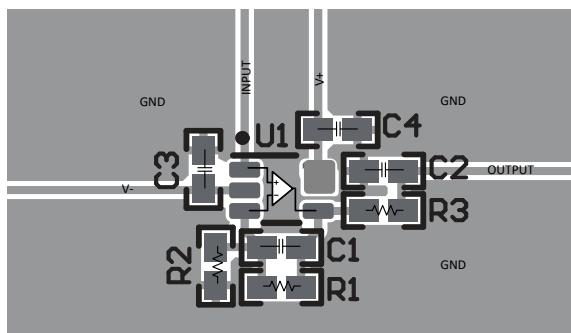
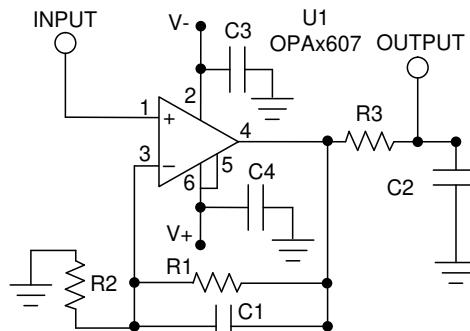

图 11-1. Operational Amplifier Board Layout for a Noninverting Configuration
图 11-2. Layout Example Schematic
- Place the external components as close to the device as possible. Keeping RF and RG close to the inverting input minimizes parasitic capacitance; see 图 11-1 and 图 11-2.